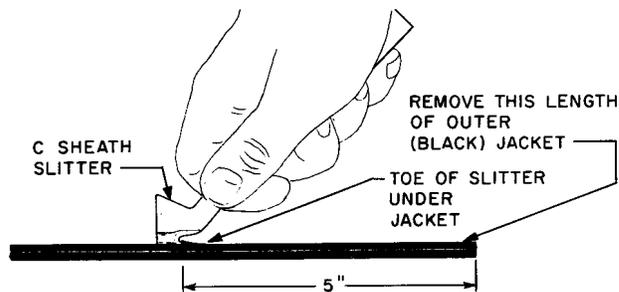

Fig. 5 – Slitting Outer Jacket, Using C Sheath Slitter
- (1) Measure about 5 inches from the end of the wire and at that point puncture the outer jacket with diagonal pliers or C Scissors. Cut only deep enough to pierce the jacket without cutting the aluminum tape.
- (2) Place the wire on a flat surface and insert the toe of the C Sheath Slitter into the cut in the outer jacket with the toe toward the end of the wire, as shown in Fig. 5.